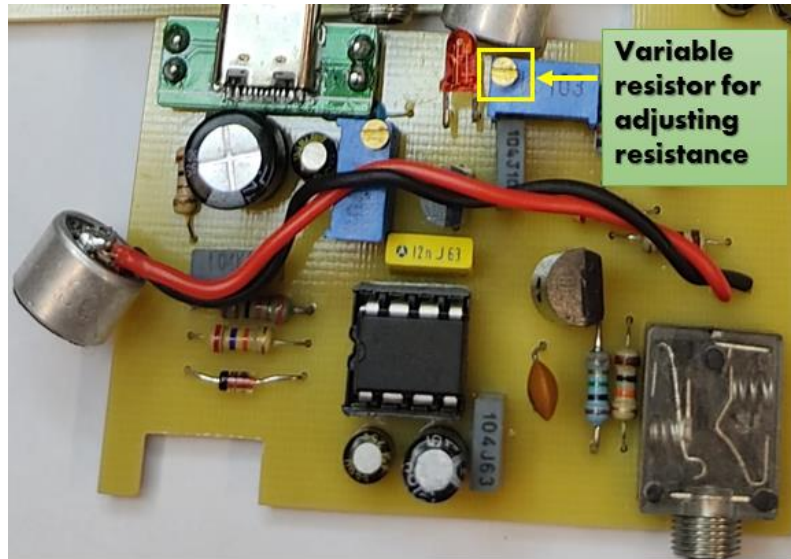

Figure 4: The variable resistor used to adjust the resistance at the points mentioned in Step 5.
6. For adjusting the resistance value, rotate the variable resistor shown in **Figure 4** using a screwdriver. Keep adjusting the variable resistance until the resistance value on the Multimeter is in the range of $135 \pm 0.1 \Omega$.